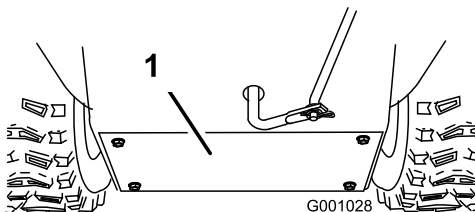

Figure 56
3. Remove the back cover (Figure 56).